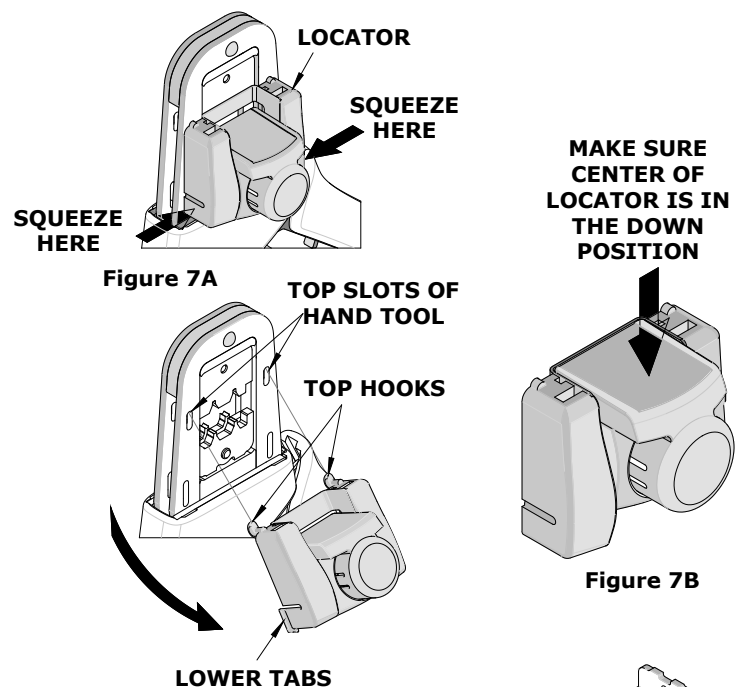

Figure 7B
5. Press the red insert down as far as it will go as shown in Figure 7B.